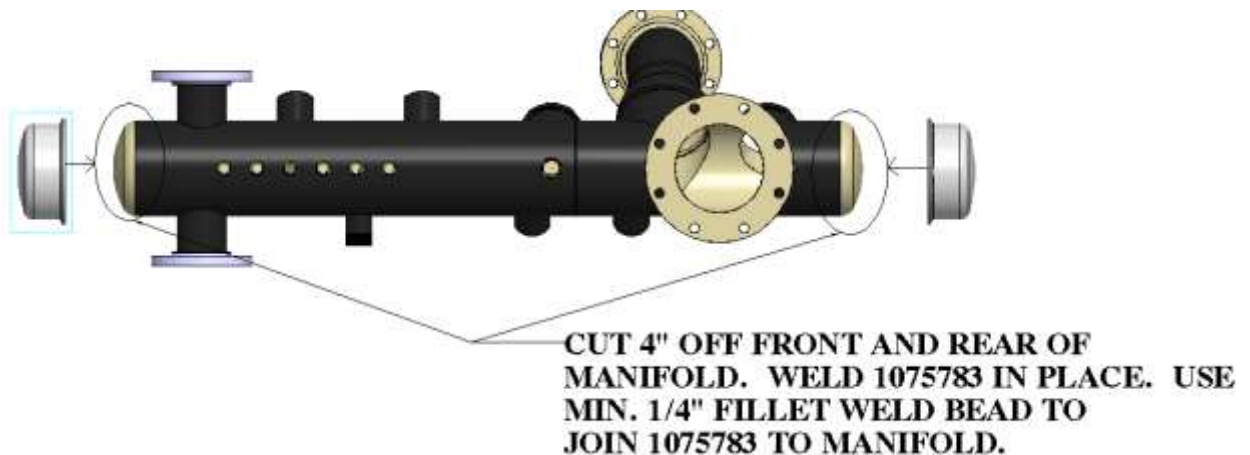

Figure 1: Manifold Repair Schematic
- 3) Weld E-ONE 1075783 rounded end cap in place of removed material. Use ¼" fillet weld full round bead to join 1075783. See **Figure 1** for example of an updated manifold assembly. Weld in accordance with ASME B31.1/31.3 for stainless 3XX series pipe.